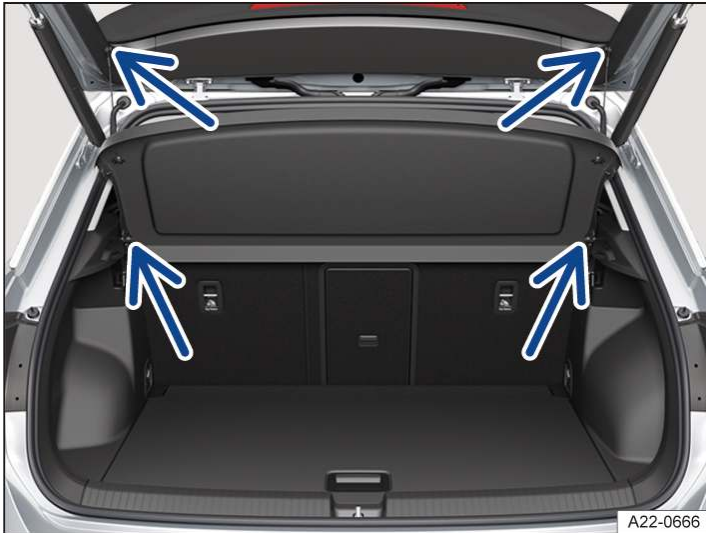

Fig. 1 In the luggage compartment: removing and installing the luggage compartment cover (illustration).
1. Unhook the retaining straps at the top on the boot lid → *Fig. 1* (upper arrows).